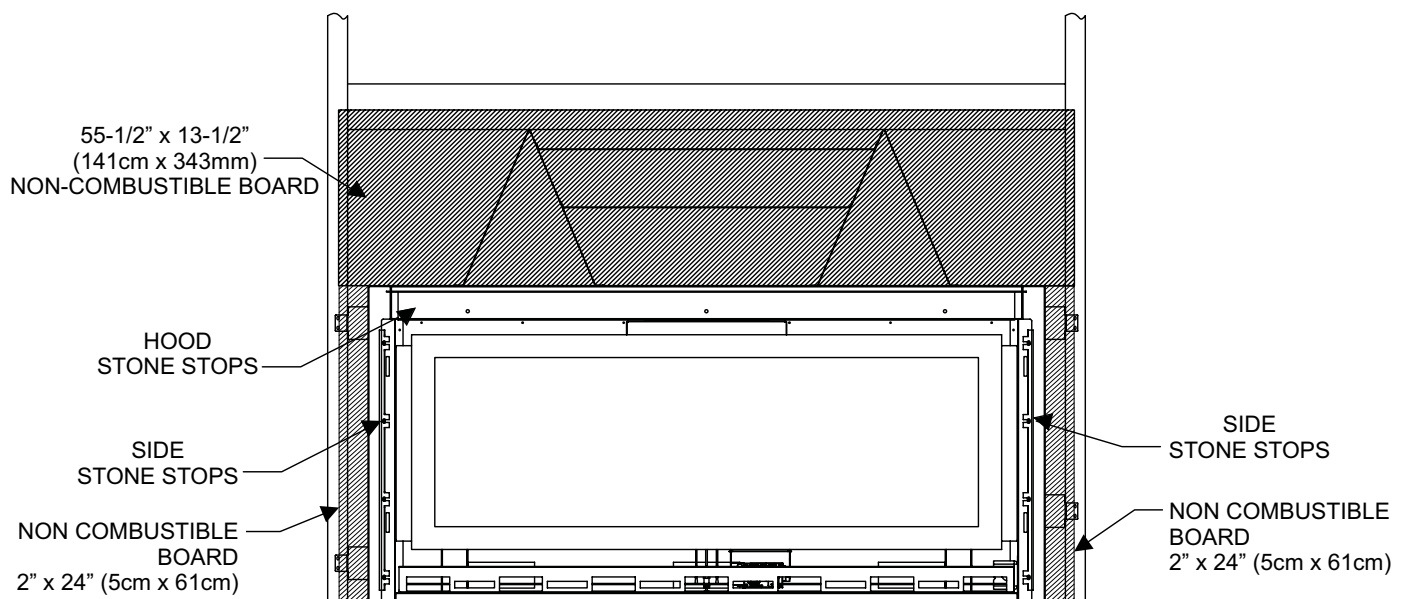

Figure 51
2. Locate the two side stone stops. Loosen the top and bottom screws on the inside opening of the fireplace but do not remove them. See Figure 51.